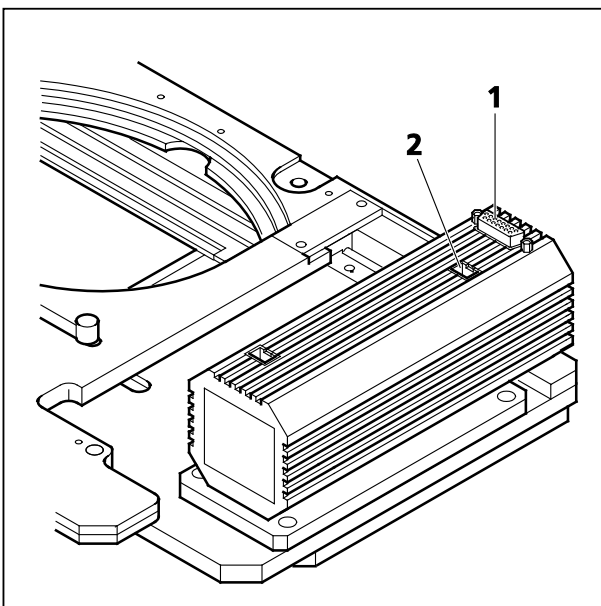

Fig. 25 Scanning stage 130x85 mot. P, CAN,
- After fitting the stage onto the microscope stand, connect the cables to the XY drive (Fig. 25/1) and to the stand (Fig. 25/2).